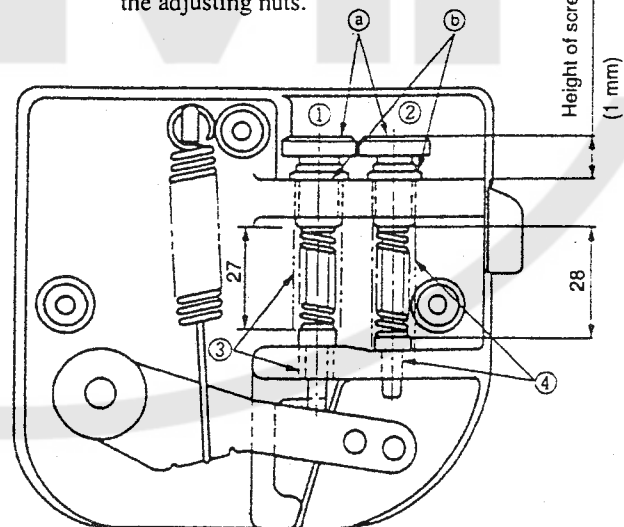

Fig. 57 Pedal sensor B asm.
- b. Attach the spring shaft B, rear part depressing spring B, rear part depressing pressure adjusting screw and rear part depressing pressure adjusting nut to side ②, shown in Fig. 57, same as in the case of side ①.